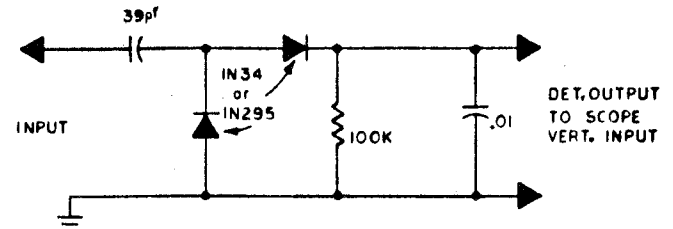

Figure 4-3. High-Impedance Detector
- g) High-Impedance Detector, (see Fig. 4-3).